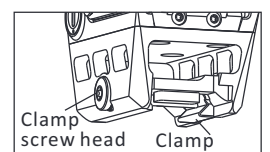

Fig 5
2. Using the included T10 Torx tool, loosen the cross bolt and then attach the sight into the Picatinny rail in an appropriate position. Apply forward pressure towards the muzzle and tighten the clamp screw to 20 inch/lbs using non-permanent thread lock. (Fig5)